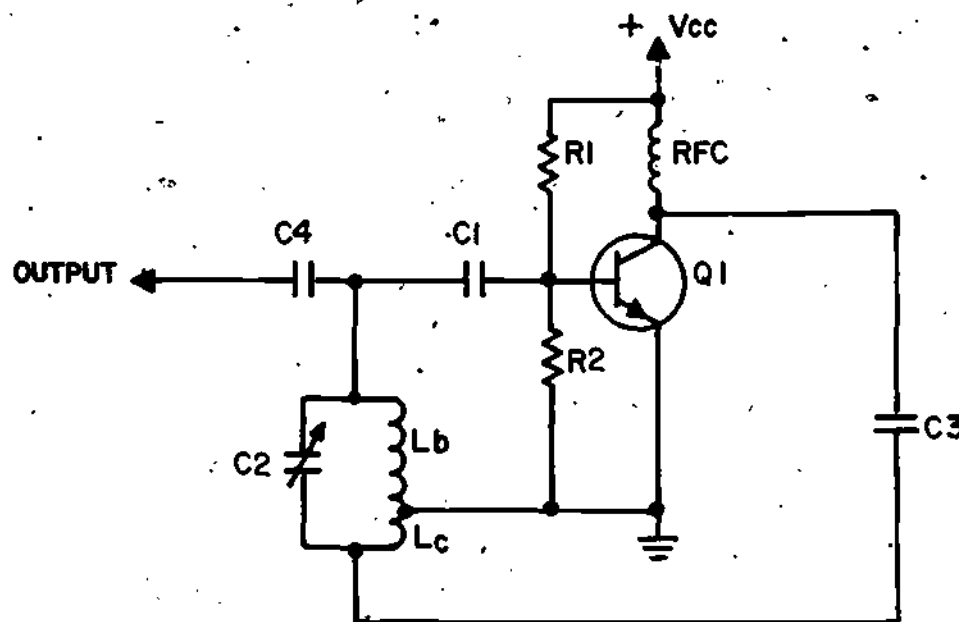

Figure 10
17. The frequency stability of an oscillator circuit depends on the Q of the oscillator tank. A high Q tank results in good stability whereas a low Q tank produces less stability for the oscillator circuit. One method used to increase the frequency stability is to remove the DC amplifier current from the tank circuit. By moving the ground from the bottom of the tank to the emitter of $Q1$, the DC path is removed from the tank. A shunt-fed Hartley oscillator schematic is shown in Figure 10.